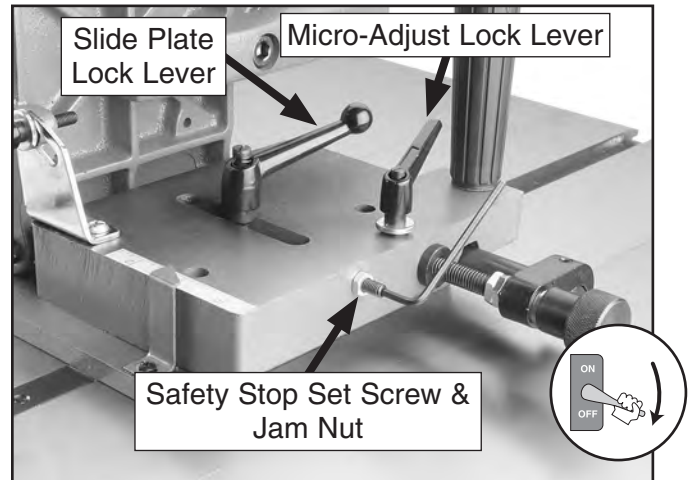

Figure 16. Side support safety stop.
In this procedure you will adjust the side support to be parallel with the saw blade and 1/2" away from it, then set the safety stop set screw (see **Figure 16**) so that the side support cannot come into contact with the blade when adjusting for different cuts.
4. Loosen the jam nut on the safety stop set screw, then back the set screw out so that it will not interfere with adjustments (see **Figure 16**).